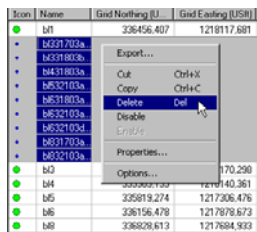

Figure 4-3. Delete Points
4. Select unwanted points, then right-click and click **Delete** on the pop-up menu (Figure 4-3).